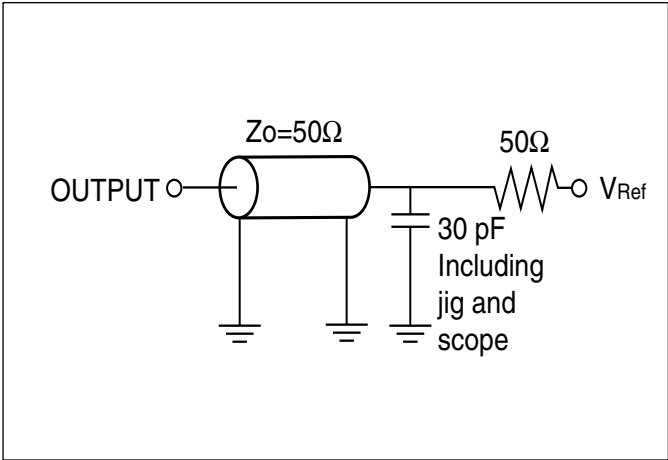

Figure 1a.
1. Test conditions assume signal transition times of 1.5 ns or less, timing reference levels of 1.25V, input pulse levels of 0V to V_{DD} V and output loading specified in Figure 1a.
1. Test conditions for IS61WV6416BLL assume signal transition times of 1.5ns or less, timing reference levels of 1.25V, input pulse levels of 0V to V_{DD} V and output loading specified in Figure 1a.